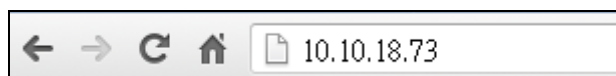

Figure 3-15: IEI iMAN Web Address
- Step 2:** On the remote management console, open a web browser. Enter the managed system IP address in the web browser (**Figure 3-15**).